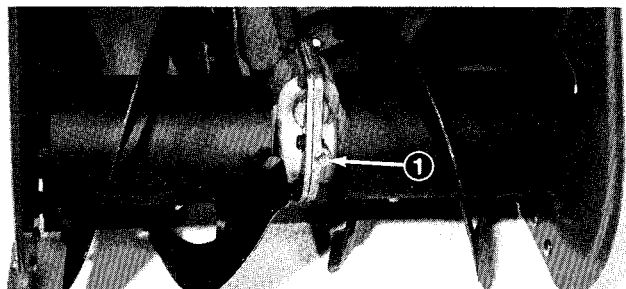

Figure 26
3. Clean area around pipe plug (Fig. 26) so dirt is removed.
4. Put a drain pan below front of auger gear box and remove pipe plug (Fig. 26).
7. Install pipe plug in gear box (Fig. 26).